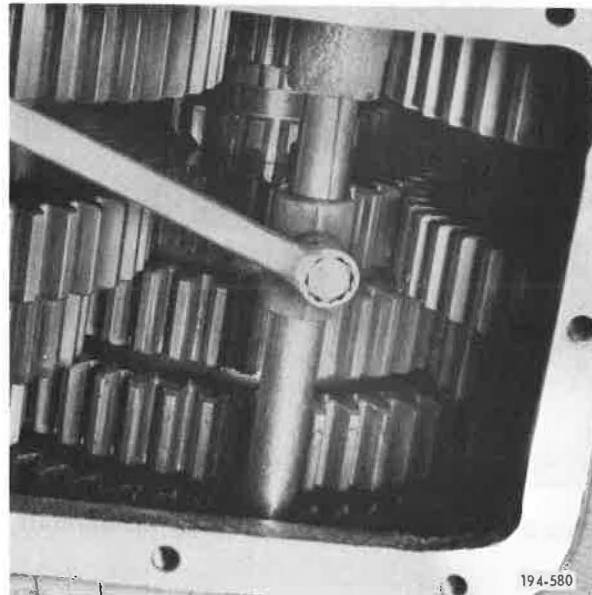

Figure 5-686. Removing Setscrew
20. Remove second/third speed shifter setscrew. See Figure 5-686.